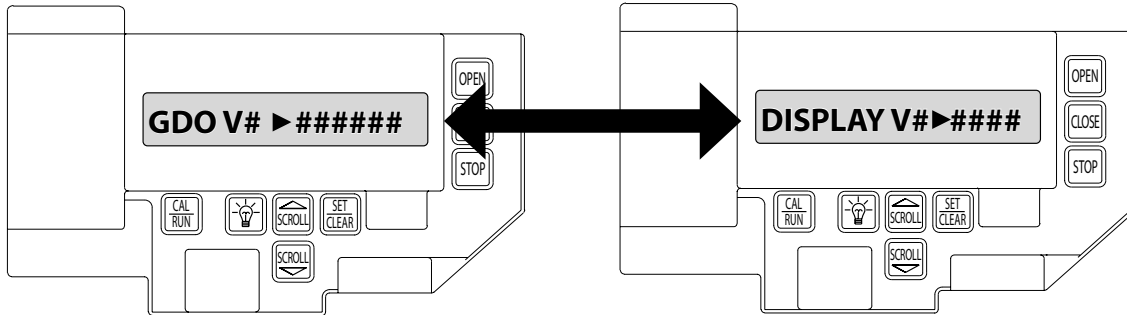

Fig. 8
- 2) Press SCROLL until display reads "GDO V# > #####" Fig. 8